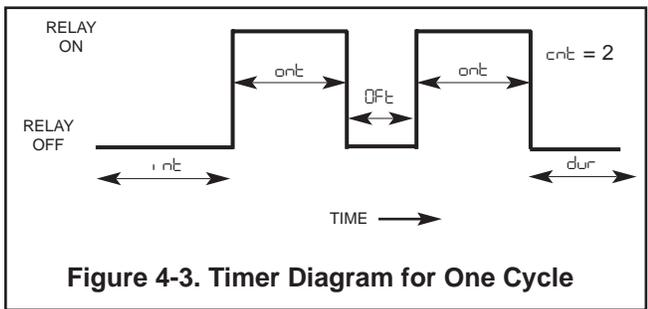

Figure 4-3. Timer Diagram for One Cycle
4.6 INTERVAL TIMER. Select *int* to set the interval timer relay logic. The timer can be used to activate and control a sensor cleaner. Refer to Figure 4-3 for an explanation of the terms used.
B. Interval Period. Select *int* to set the amount of time between control cycles (see Figure 4-3). *int* opens a sub-menu that asks for time in *SEC* for seconds, *min* for minutes, *hr* for hours, and *DAY* for days. The recommended minimum interval is 10 minutes.